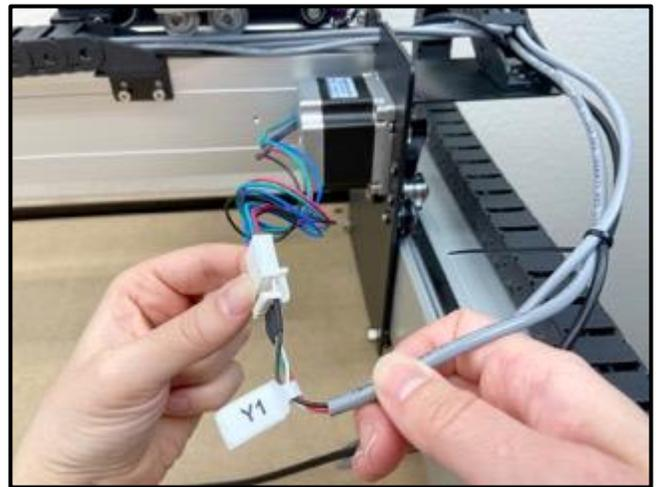

Figure 8-12
2. Connect the Y1-motor leads to the short gray 4-pin extension cable labeled "Y1." See **Figure 8-12**.